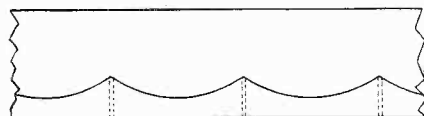

Fig. 1. Cuts to the curve intersections.
8) Before beginning to cut a pattern of curves, make a number of short, straight cuts through the waste stock (Fig. 1) to the points along the line where the blade would not be able to negotiate a turn. When the curves are finally cut, the waste stock will fall